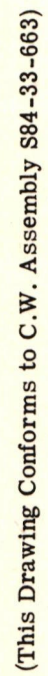

Figure 12-IX - Tail Wheel Retracting Strut
(1) Description.- Figure 12-IX is a detail drawing of the tail wheel retracting strut. The strut is conventional except for a spring arrangement in the retaining nut in the aft end of the cylinder to retain the piston in the fully extended position. This provision, in turn, insures that the extended piston will maintain the tail wheel "DOWN" lock assembly in the locked position, until hydraulic pressure is applied to retract the piston in the normal manner. The arrangement consists of an eight-tined annular spring with internal projections, which engage a washer extending outward from the surface of the piston rod. The retaining properties of the spring are effective in preventing movement of the piston toward the retracted position under vibration or extraneous loads, but are readily overcome by application of hydraulic pressure to retract the strut.
(2) Disassembly, Minor Repair, and Assembly.- Refer to fig. 12-IX for construction details of the tail wheel retracting strut. Replacement of the piston seals, retainer spring, or aft nut packing requires the removal of the retaining nut (7). Replacement of the forward nut packing obviously requires removal of the retaining nut (3). To replace the piston rod packing (6) or the spring (10), first remove the retaining nut (7). The lock ring (11) must also be removed to replace the spring (10). Remove the piston from the cylinder to replace the main piston seals (12). Before installing new packing or seals, remove all traces of old packing or seals, clean parts thoroughly, and allow to dry. Lubricate all seals or packing thoroughly with hydraulic fluid, Specification No. AN-VV-0-366a, before installing. When assembling threaded parts, use ample approved anti-seize compound, Specification No. AN-C-53.